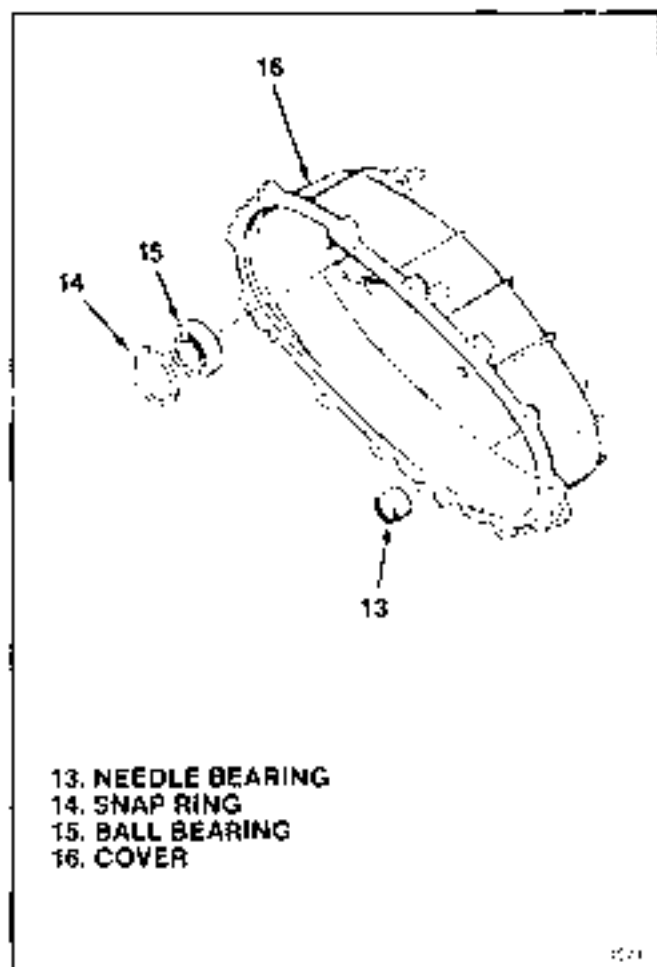

Figure 5-15. Cover Assembly
**5-14. COVER ASSEMBLY.** Assemble parts into cover as follows (see figure 5-15):
a. Position cover (16) on bed of suitable press so that open face of cover is up and parallel with press bed.
b. Using suitable drift, press in ball bearing (15) to bottom in cover (16) and install snap ring (14).
c. Position end of needle bearing (17) with identification marking up. Using suitable drift, press bearing into cover (16) until upper end of bearing is 2.98 to 2.815 in. (75.7-71.5 mm) below face of cover that mates with transfer case.